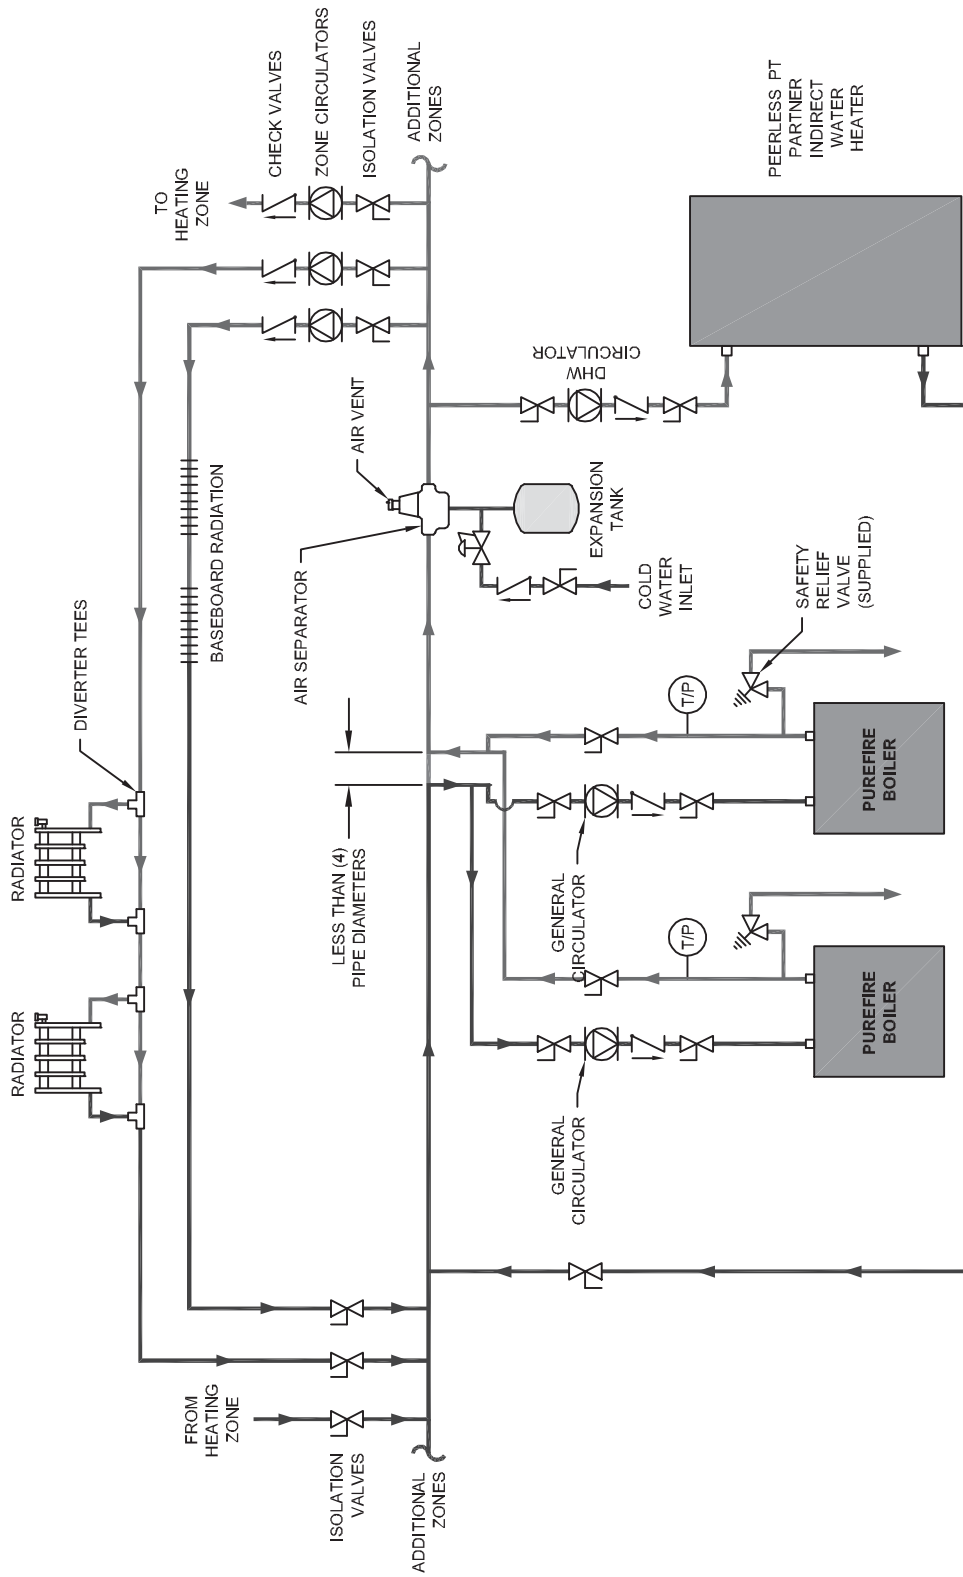

Figure 4.7: Two Boilers, Primary/Secondary with Four Zones (Zone Circulator)
- 3. In Figure 4.7 an additional boiler is added and more heating zones are shown. Notice that the two boilers are piped in parallel on the secondary loop. This maximizes the efficiency of the boilers since the lowest temperature system water is returning to both boilers.